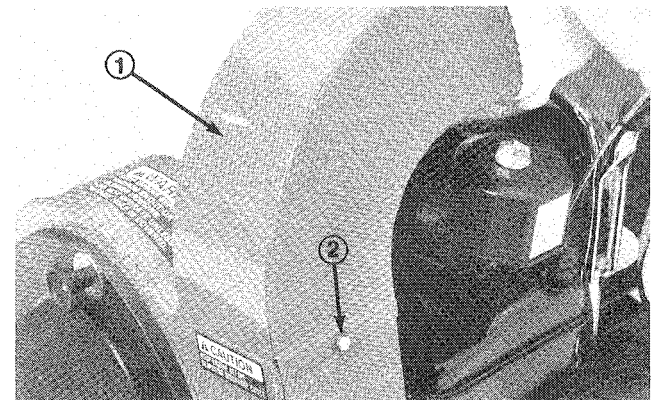

Figure 6
1. Install discharge chute and secure with 1/4" chute retaining screw (Fig. 6).